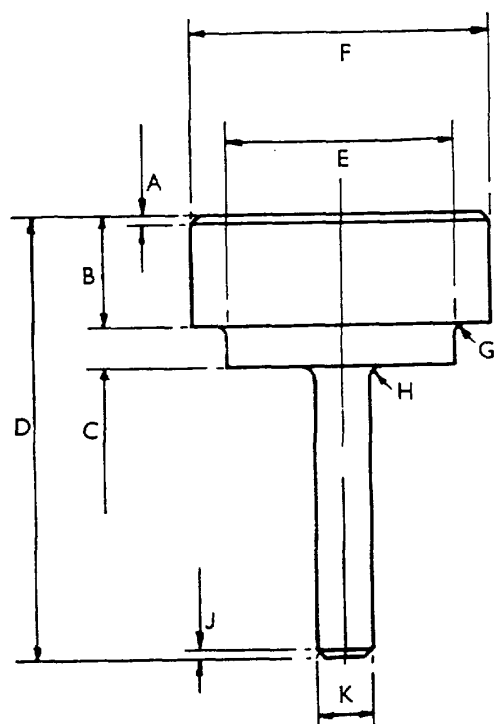

Fig. E.7. Press Tool for Valve Seat Inserts.
3. Remove all machining swarf and thoroughly clean the insert recess (removing any burrs which may be present), and once more using the valve bore as a pilot, press the insert home using the inserting tool (see Fig. E.7) using a steady pressure with either a hand or hydraulic press.